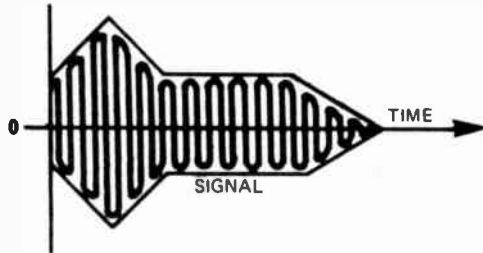

Fig. 4 The 'envelope' of a sound is the variation of its intensity with time.
**Envelope** The envelope of a sound is the variation of its intensity with time as shown in Fig. 4. The rate of variation of the envelope is very slow compared with the time variation of the sound itself (sine wave shown in Fig. 4 is the base sound.) Although the envelope is symmetrical about zero it is usually referred to in terms of the modulus.